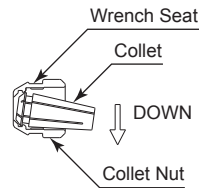
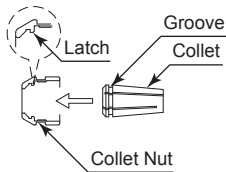

Fig. 12
Fig. 13
- ② The collet and collet nut are secured by a groove in the collet and a flange in the collet nut. To remove the collet hold the collet nut in one hand and push diagonally down on the collet. The collet should be released (Fig. 12).
- ③ To install the collet, hold the collet at a slight angle, and insert it into the collet nut (Fig. 13). Press the collet in the collet nut by positioning the collet in the collet nut and pressing down on flat surface (Fig. 12).